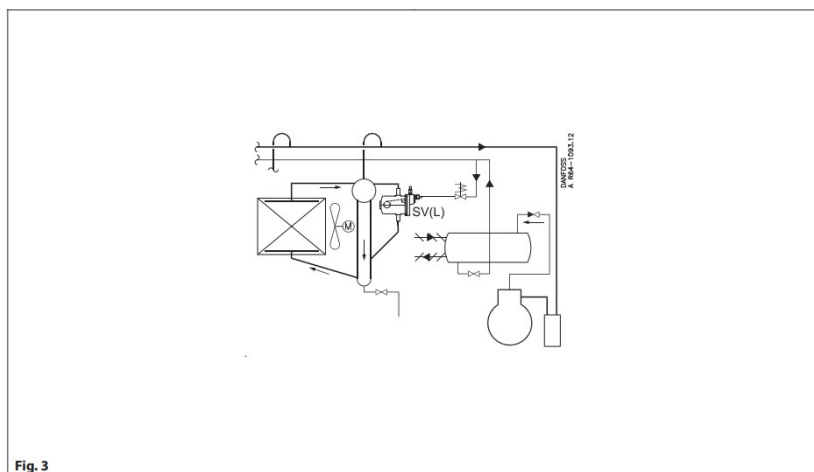

Fig. 3
Low pressure float valve SV (fig 1 and 3). When SV is to be used as a low pressure float valve it must be fitted with its longitudinal axis horizontal at the same height as the liquid level required (fig. 3)
When an SV(L) is used as a separate expansion valve (fig. 3), the liquid inlet line is connected to nipple C (delivered separately). To avoid false level, the pressure drop in the suction vapour connection must be as small as possible.